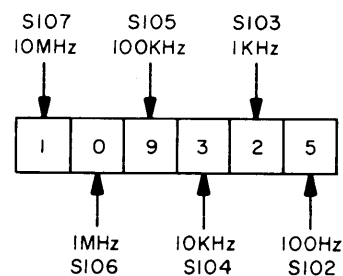

Figure 4-2. Frequency Selector Switch Readouts
c. FREQUENCY SELECT SWITCHING. (See figure 7-1.) Frequency selection in the CHG()-4 is accomplished by six rotary switches S102 through S107, with direct-reading dials, corresponding to selectable frequency increments of 100 Hz, 1 kHz, 10 kHz, 100 kHz, 1 MHz and 10 MHz, respectively. (See figure 4-2.) The six discrete frequencies, produced on each of the comb filter boards Z102 and Z103, are applied to the selector switch networks through 100-ohm series isolation resistors on respective terminal boards TB101 and TB102. (See figure 7-1.)